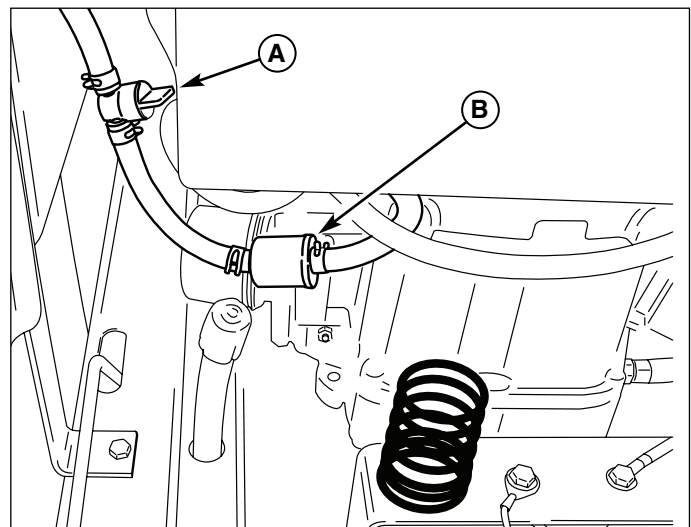

Figure 18. Fuel Filter Replacement
1. Shut off the fuel valve (A, Figure 18).
4. Using pliers, open and slide hose clamps from fuel filter (B, Figure 18).